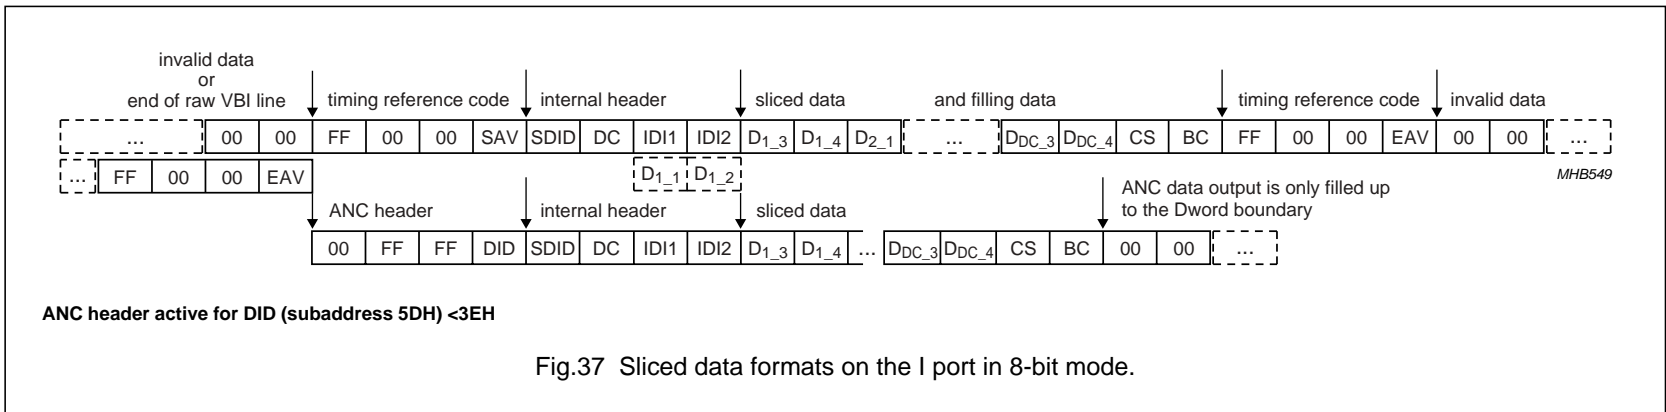

Fig.37 Sliced data formats on the I port in 8-bit mode.
**Table 20** Explanation to Fig.37